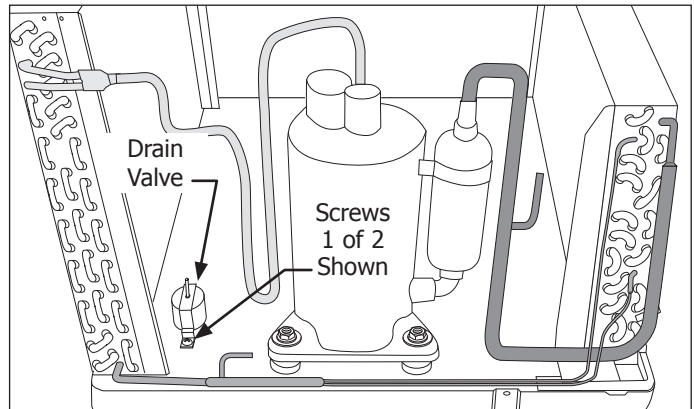

Figure 4-48.
3. Extract the two screws securing the drain valve to the unit base. (See Figure 4-48)